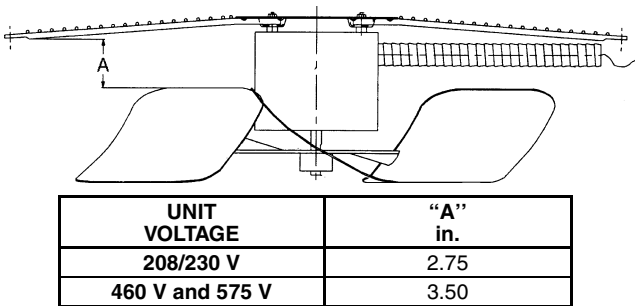

Fig. 42 — Outdoor Fan Adjustment
III. OUTDOOR FAN ADJUSTMENT (Fig. 42)
3. Adjust fan height as shown in Fig. 42.